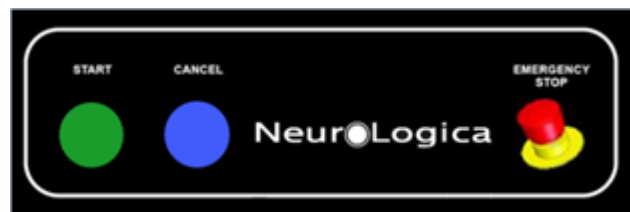

Figure 8: Close-up of the scanner control panel and the E-STOP button
- The **START** button is activated when the patient is registered, the protocol is selected, the **Begin** button is clicked, and the protocol is prepared. The **START** button on the scanner's control panel illuminates when the scanner is ready to begin. See Figure 8 on page 67 to identify the **START** button.